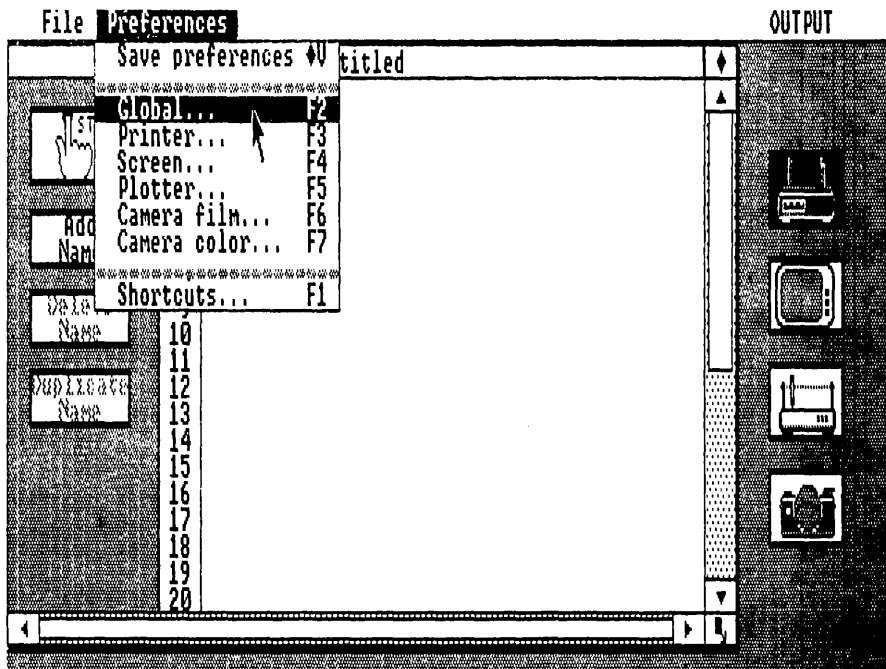

Fig. A-11. The OUTPUT Preferences Menu.
4. A new menu—Preferences (Fig. A-11).